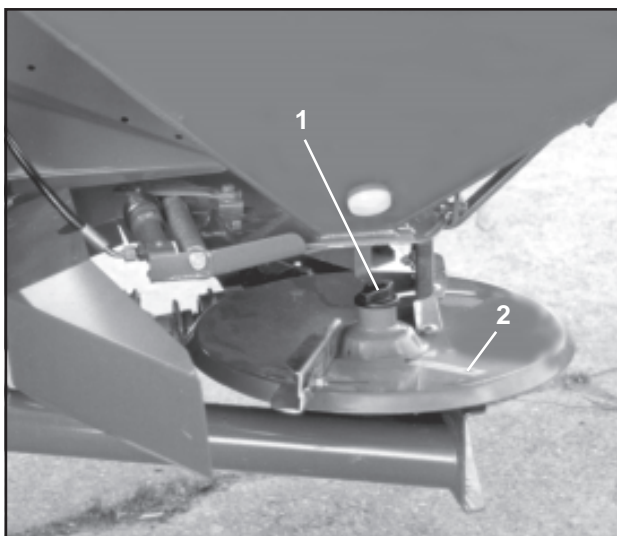

Fig. 7.18
- Remove thumb nut (Fig. 7.18/1).
When setting up spreading disc do not mix up "left hand" and "right hand". The spreading discs are marked with decals accordingly (Fig. 7.18/2).